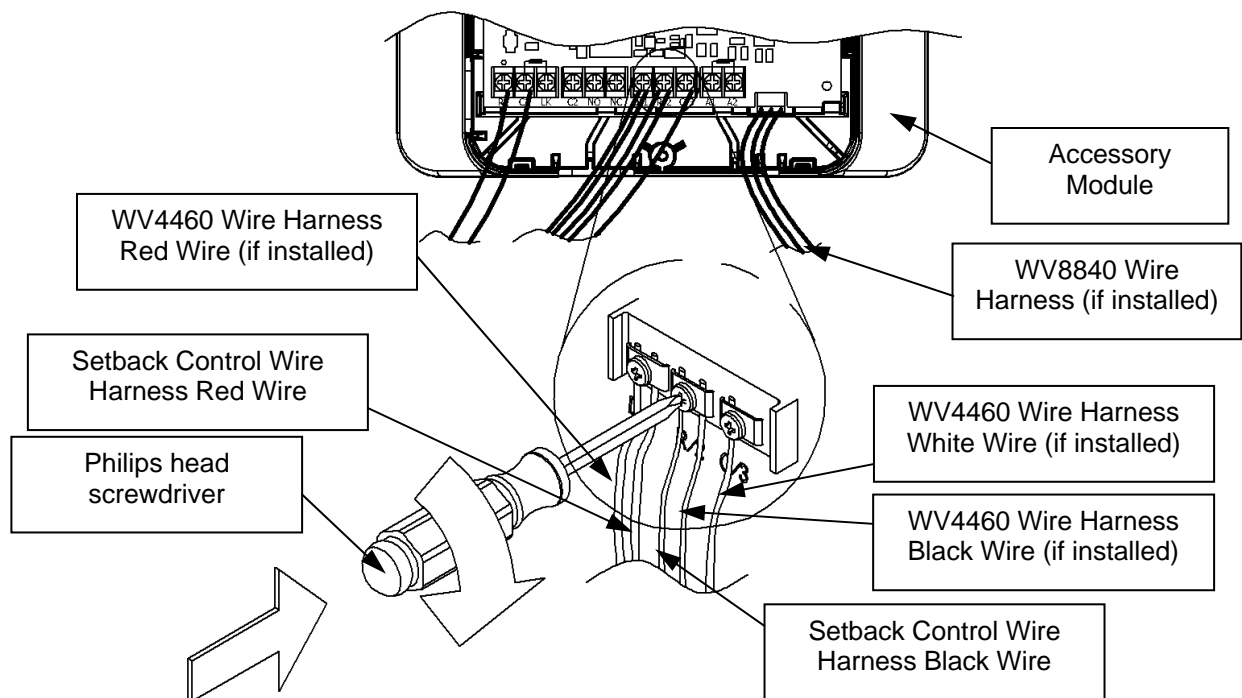

Figure 47
Step 20: Tighten the screw labeled "R/2," as shown in Figure 47.